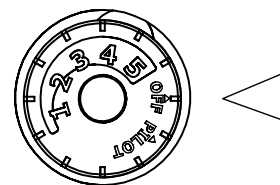
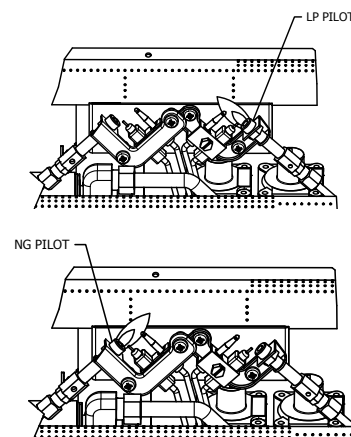

Fig. 15 - Control Knob
Fig. 16 - Pilot
3. Turn control knob clockwise  to the "OFF" position (See Fig. 15).
4. Wait five (5) minutes to clear out any gas. Then smell for gas, including near the floor. If you smell gas, STOP! Follow "B" in the safety information as noted above. If you don't smell gas, go to the next step.
5. Turn control knob counterclockwise  to the "PILOT" position (See Fig. 16). Depress control knob.
7. Keep control knob depressed for (30) seconds after pilot lights. Release control knob.
- If pilot goes out repeat steps 3 through 7. Wait (1) minute before attempting to light pilot again. If after several tries the pilot still goes out, turn the gas control knob clockwise  to the "OFF" position and call a qualified service technician.